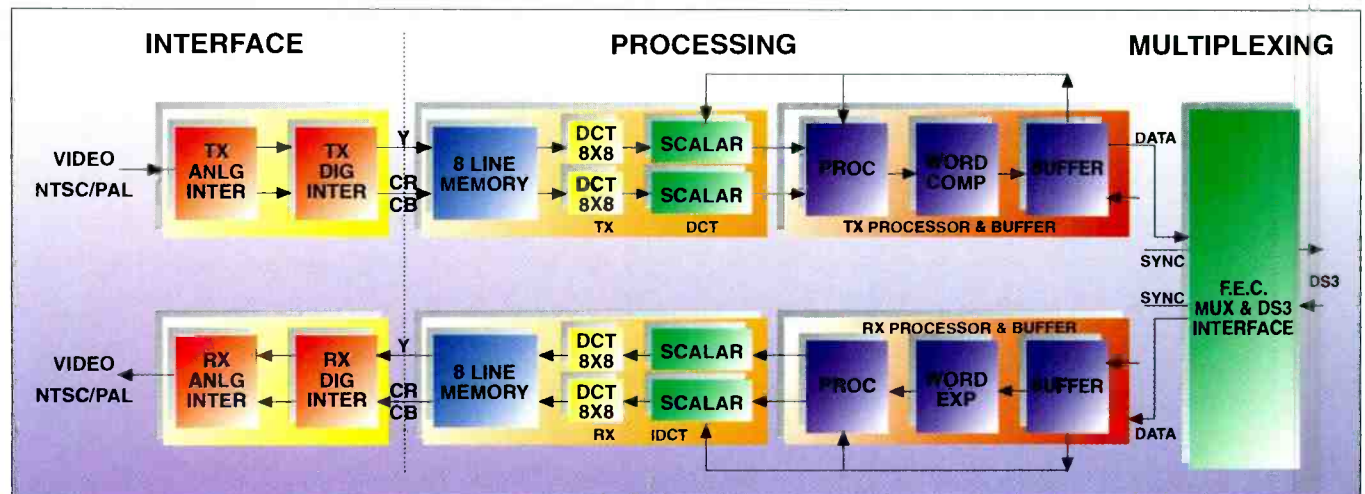

Figure 1. Basic block diagram of the video portion of the codec used by Pacific Bell to provide AVS-CD service.
DCT operation is performed in the DCT while entropy coding is performed in the buffer and processor unit, which also provides a buffer to adapt the variable coding rate to the fixed line bit rate. The bit-rate reduction is achieved by applying the DCT algorithm first on rows and then on columns of each 8x8 size block of luminance (Y) and chrominance difference signals (Cr, Cb). Two different processors operate in parallel, one for luminance, the other for chrominance differences Cr and Cb alternately. The computational structure of DCT has different modes of operation that are selected based on the occupancy of the buffer store at the codec output. These modes include scaling of transformed data with a multiplicative coefficient adapted in relation to buffer occupancy. (See Figure 1.)